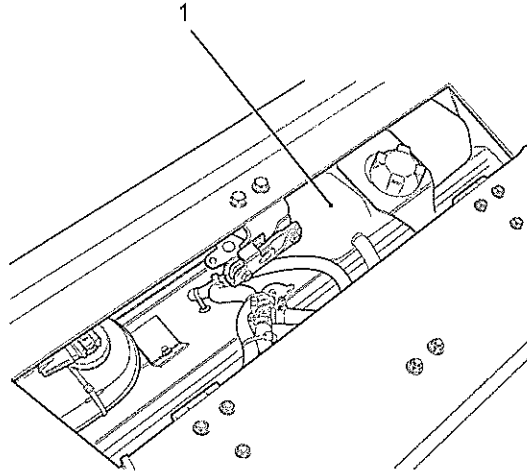

Fig 1 Coolant compensation reservoir
4.1 Put the vehicle in a horizontal position. Open the bonnet hatch in front of the windscreen to provide access to the coolant reservoir (see Fig 1 (1)).
- 5.2 Carefully unscrew the filler cap by hand (see Fig 1 (2)).
- 6.2 Fill the compensation reservoir (see Fig 1 (1)) with coolant and water mixture (50:50) up to the maximum level.